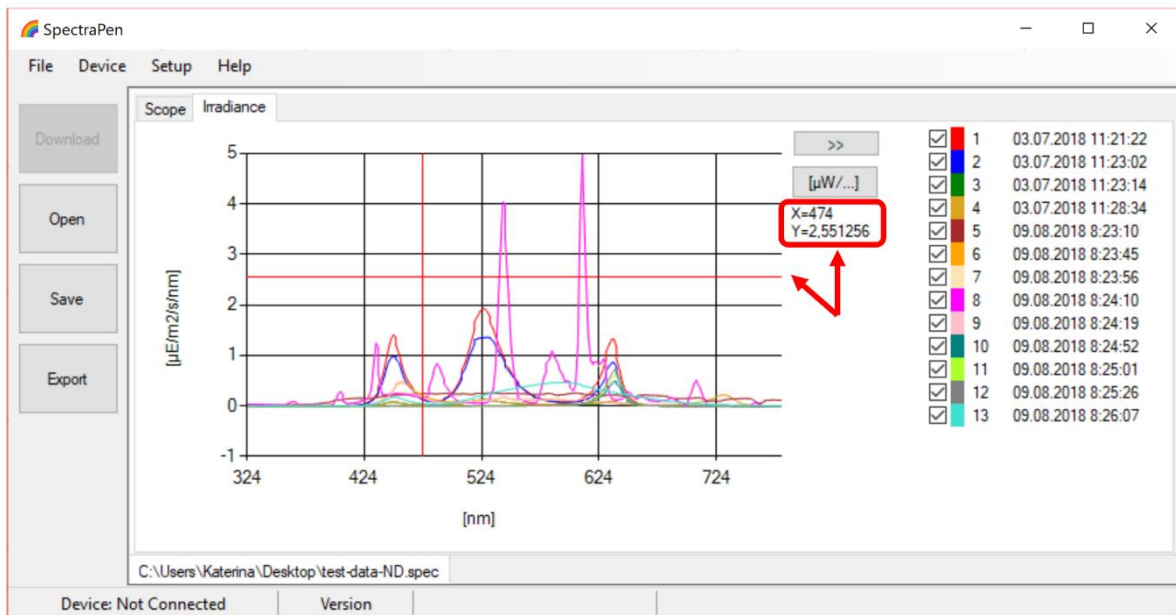

Fig. 31 Marker feature.
- In the graph **marker** feature is available, which enables display of the numeric values for wavelength and light irradiance for the selected wavelength of the scan (Fig. 31). Use the mouse to select the given point. In top right corner of the graph (red rectangle) is displayed exact value for the selected point on the x-axis and y-axis.